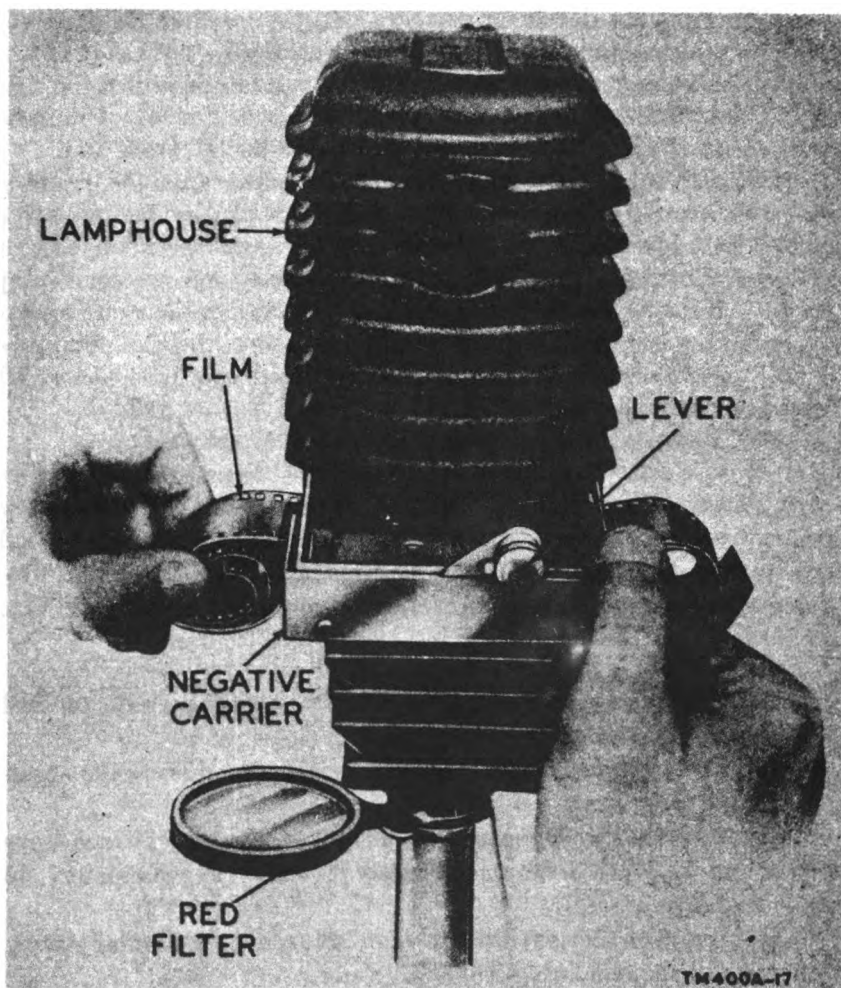

Figure 17. Inserting negative carrier.
b. Loading Negative Carrier (fig. 17).
- (1) Hold the carrier so that the curve in the film holder faces upward.
- (2) Raise the top plate and place the film in the carrier with the emulsion side down so that it passes over the aperture of the bottom plate.
- (3) Close the negative carrier and place it in the printer.